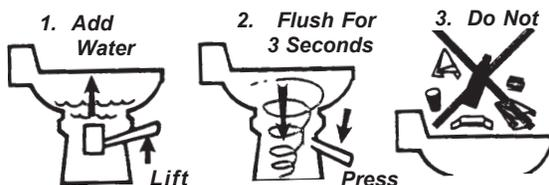

Figure J11: Vacu-flush™ Operations
The Vacu-flush® toilet operates in a different way from other marine toilets. Vacu-flush® systems use a small amount of water (a little more than a pint) per flush in addition to a simple vacuum. The toilet is connected to the fresh water system. Fresh water is the key to an odor free bathroom compartment. Vacu-flush® toilets are equipped with an intergrade vacuum breaker which prevents the possible contamination of the potable/fresh water supply. See Figures J11 & J12. Also refer to the manufacturer's literature included in the owner's packet.
1. To add water to the toilet before using, raise flush lever until desired water level is reached. Generally, more water is required only when flushing solids. See Figure J11.